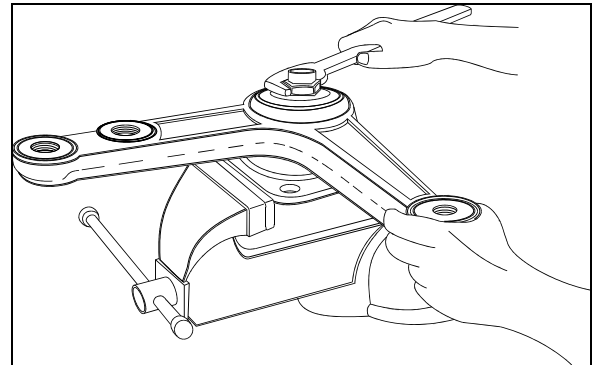

FIGURE 19: BELL CRANK 16044
5. Firmly tighten nut (Fig. 19).